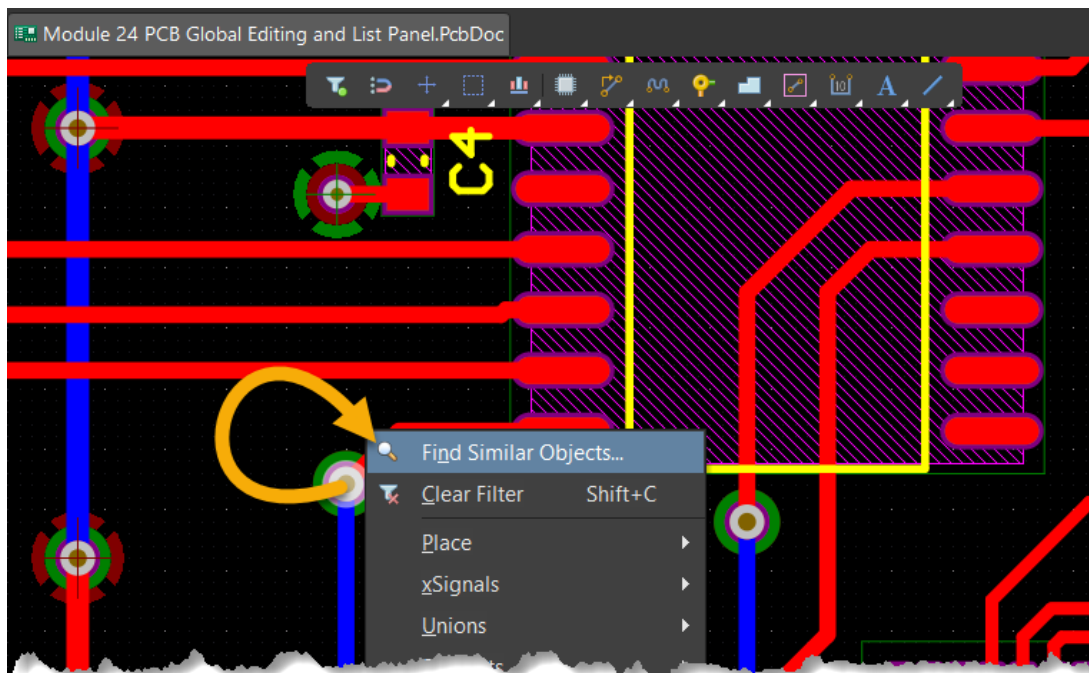

Figure 7. Right-click and select Find Similar Objects
29. Select the via located near U11-14 and right-click to *Find Similar Objects* as shown in Figure 7 below.